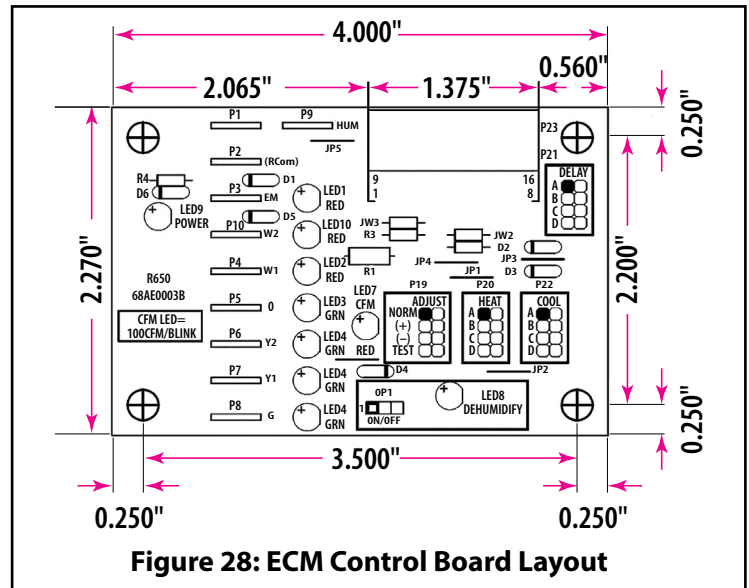

Figure 28: ECM Control Board Layout
5. Motor speed can be changed for both heating and cooling modes by moving the jumper on the "COOL" and "HEAT" jumper pins (See Figure 28) on the ECM control board to a different setting. Pin setting is as follows:
6. The ADJUST pin (See Figure 28) is used to increase or decrease the cooling and heating blower motor CFM by 10-12% by moving the pin from the NORMAL position to either the + or - setting.
Dehumidify– The ECM control board has a jumper pin (OP1, See Figure 28) that can be selected to provide on demand dehumidification for the cooling system. If the jumper pin is moved the ON position, a 24 VAC signal must be present from a dehumidifying thermostat or humidistat when the humidity is below the set point. The humidistat contacts must open when humidity is above the set point.